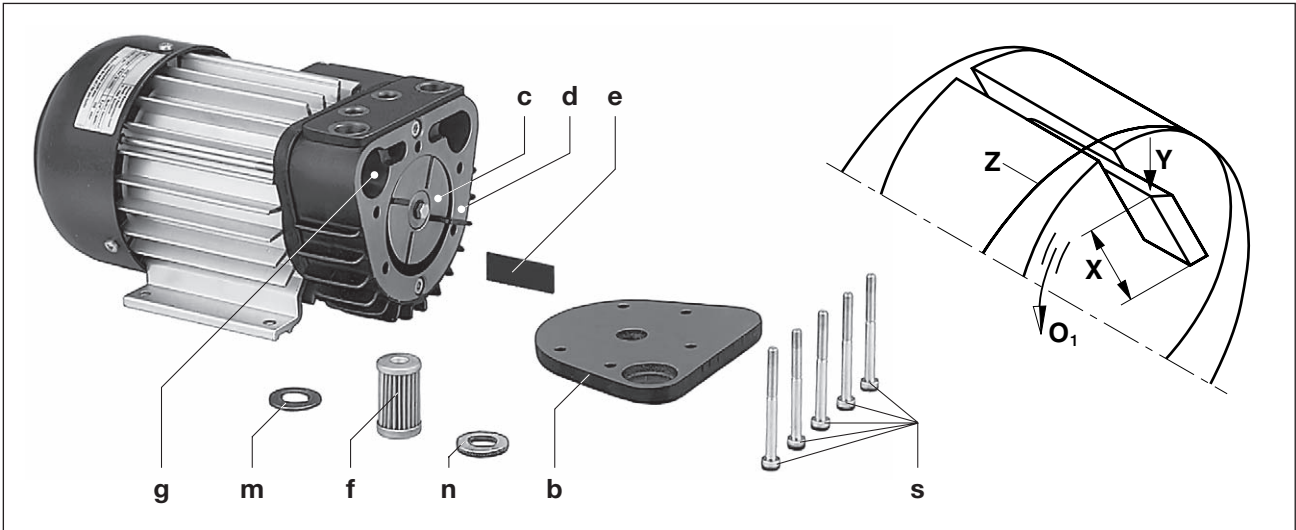
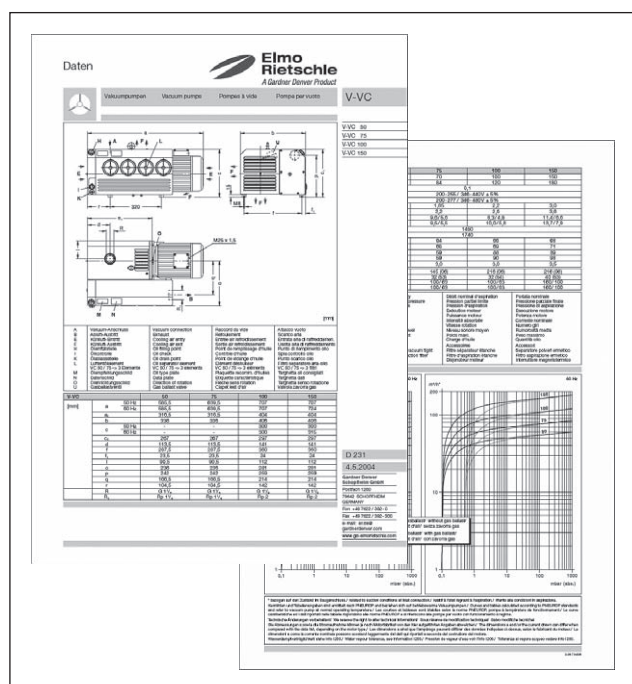

Fig. 3 Air filtering and changing blades
Fig. 7 Data sheet (example)
The filter cartridge (Fig. 3/f) air must be cleaned by blowing from the inside to the outside once a month or more often depending on the level of contamination, or if necessary replaced.
Remove filter cartridge (Fig. 3/f) with gaskets (Fig. 3/m, 3/n) from filter room (Fig. 3/g). Clean or replace filter cartridge and check gaskets.
- a) Don't interchange gaskets (Fig. 3/m, 3/n)
- b) Ensure that the surfaces of housing (Fig. 3/d) and rotor (Fig. 3/c) are clean
- c) Tighten the screws (Fig. 3/s) to 5,5 + 0,5 Nm
Unscrew the housing cover (Fig. 3/b) from the housing. Remove the blades (Fig. 7/e) to be checked. All blades must have a minimum height (Fig. 3/X):
Blow out the housing and the rotor slot. Insert the blades into the rotor slot. When doing this you must ensure that the blades with the sloping side (Fig. 3/Y) point outwards and the direction of rotation of these sloping sides (Fig. 3/O₁) matches that of the drilled holes for the housing (Fig. 3/Z).
Replace the housing cover (Fig. 3/b) and slightly tighten the screws. Start the pump briefly and check for free and smooth running blades. Tighten the screws (Fig. 3/s) to 5,5 + 0,5 Nm.